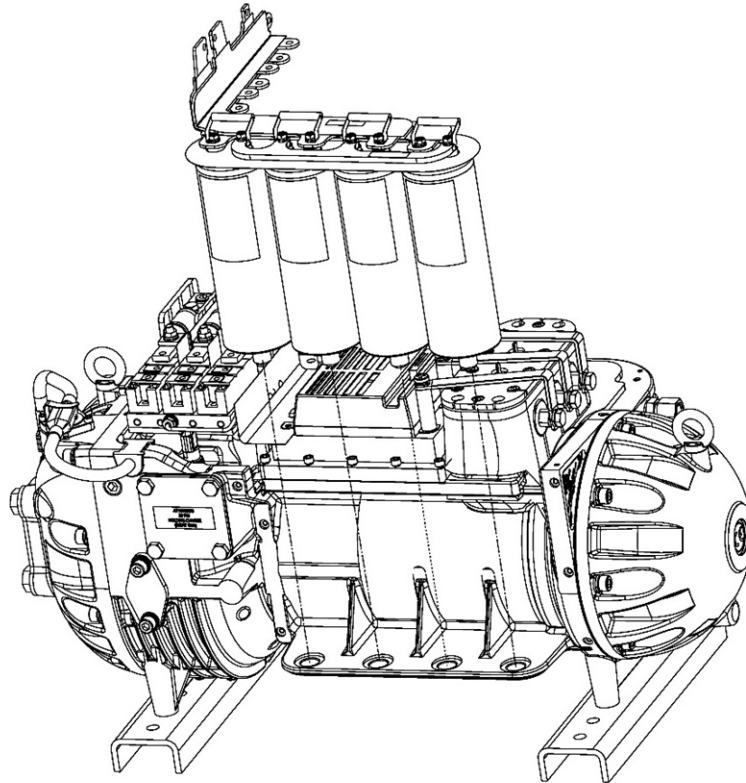

Figure 13 – Capacitor Assembly Removal
23. Carefully lift the DC Bus Bars and capacitors out as an assembly. Refer to Figure 13 (Capacitor Assembly Removal).
20. Reinstall the DC Bus Bar and capacitor assembly over the Inverter. Refer to Figure 13 (Capacitor Assembly Removal).